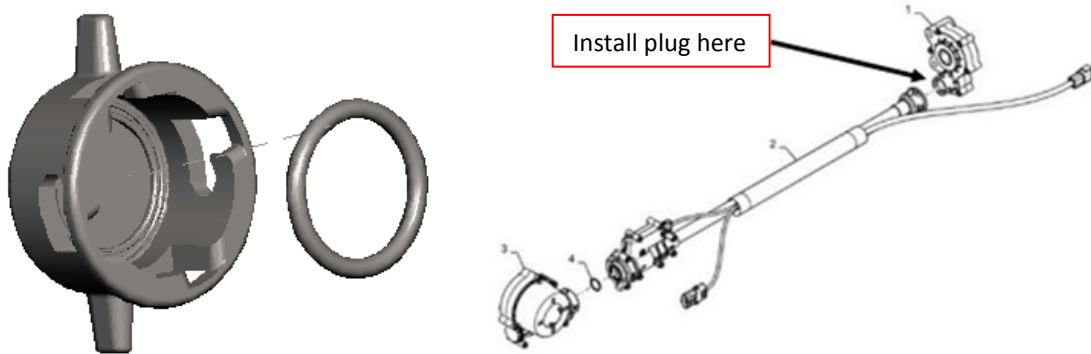

Figure 3 – Accu-Drive Plug Location
- a) If the planter is equipped with an Accu-Drive system, remove the drive cable from the gearbox. Install the O-ring into the drive plug and install the drive plug onto the gearbox as shown in figure 3. The entire Accu-Drive system can also be removed. The O-ring and plug would not be used.